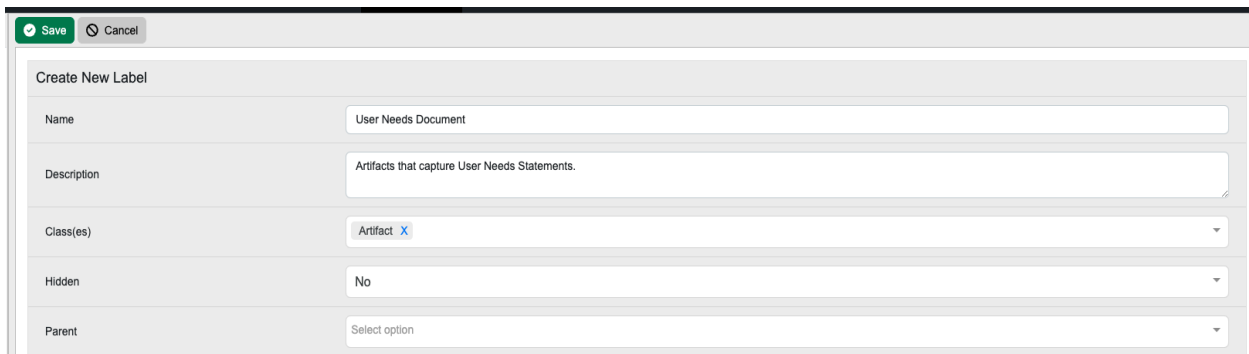

Figure 11: Identifiers in Schema Editor
3. In the “Create New Label” form, copy the information from Figure 11.